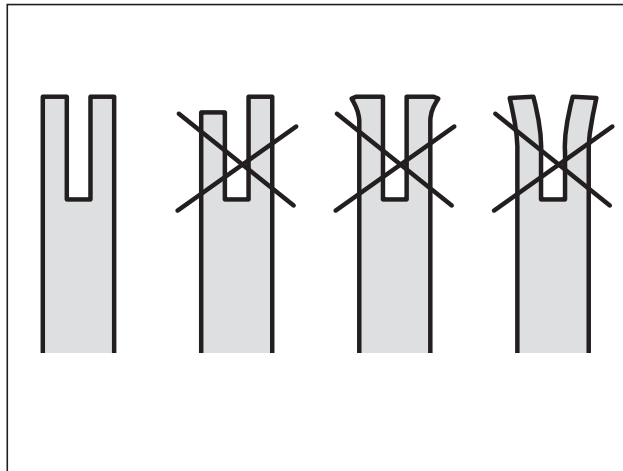

Fig. 32
5. Check the guide bar 'rail' for wear: Hold a ruler (straight edge) against the side of the guide bar and 'cutter side plates'. If there is a gap between the ruler and guide bar the guide bar 'rail' is normal. If there is no gap (ruler flush against the side of the guide bar) the guide bar 'rail' is worn and needs to be replaced with a new one of the same type (Fig.32) .